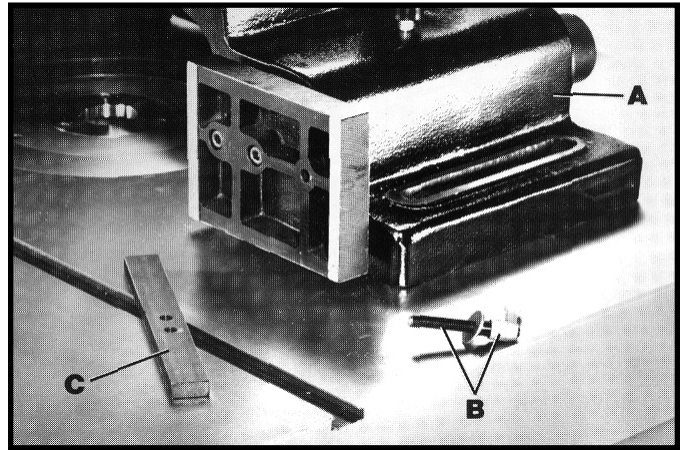

Fig. 16
1. Place fence body (A) Fig. 16, on the table as shown, and locate the two fence locking levers with washers (B) and fence lock bars, (C).